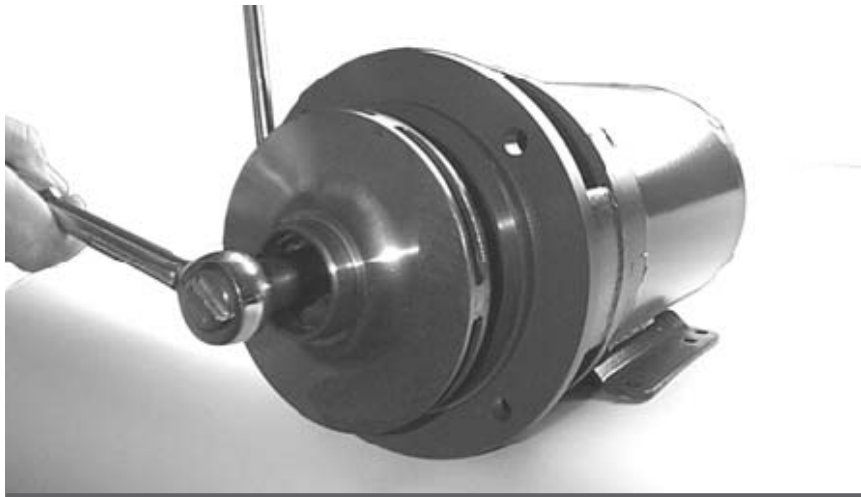

Figure 1 *Back off the impeller retaining assembly.*
6. Insert a screwdriver in one of the impeller waterway passages and back off the impeller retaining assembly with a socket wrench, as shown in Figure 1.